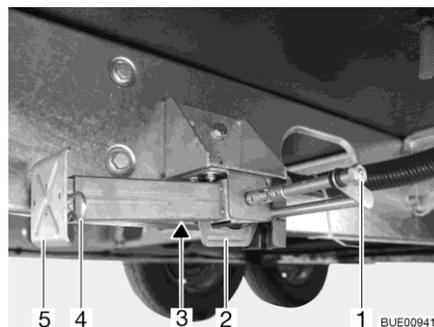

Fig. 40 Steady leg
- Place the socket spanner on the hexagonal nut (Fig. 40,1) and rotate until the steady leg is in a perpendicular downward position.
- If the length of the steady leg can be adjusted, remove the splint (Fig. 40,4) out of the support foot extension (Fig. 40,5).
- Place the socket spanner on the hexagon nut (Fig. 40,1) and rotate until the steady leg is clear of the ground.
- Push in the support foot extension (Fig. 40,5) and insert the splint (Fig. 40,4) in the drilled hole in the support foot extension.
- Rotate the hexagonal nut (Fig. 40,1) until the steady leg has swung upwards and the guide (Fig. 40,2) has reached the very end of the slot (Fig. 40,3).